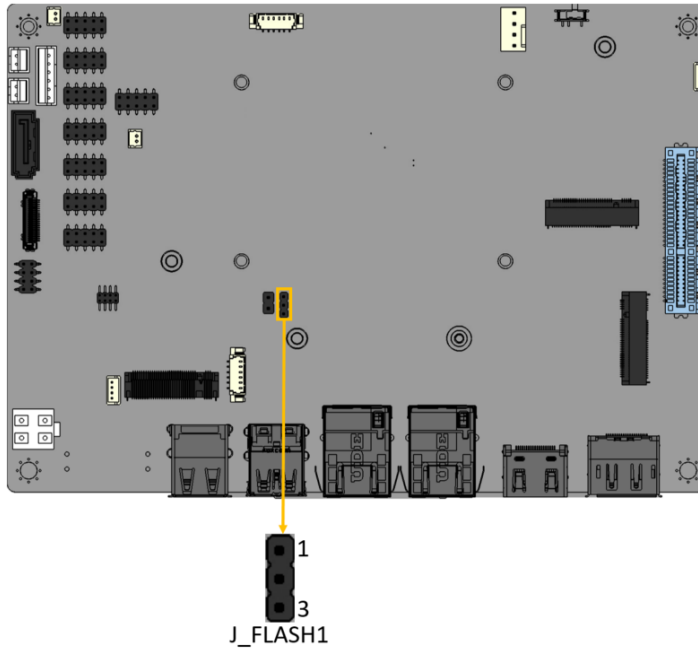

Figure 3-4: Flash Descriptor Override Setting Jumper Locations
- CN Location:** See Figure 3-4